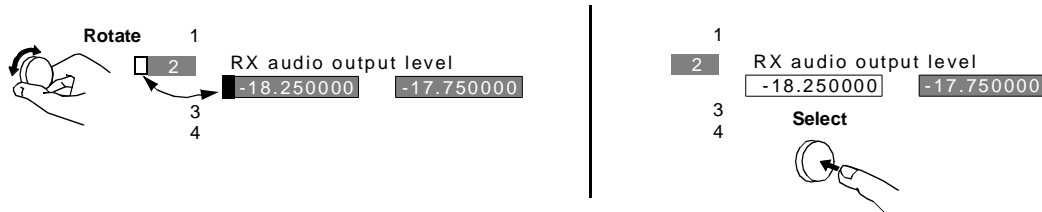

Figure 21
- 5 Rotate the CURSOR CONTROL knob to move the cursor to the **Lower Limit** value field and select it (see figure 21).